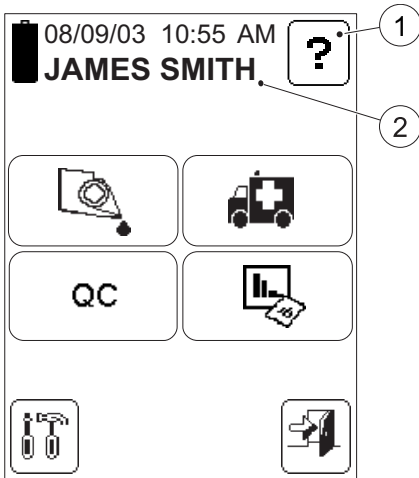

FIGURE 2-24
- c) If the requirement for Operator ID is set to "Not Used" (see section *3 Settings*), the Main Menu will be displayed, *FIGURE 2-24*, without the Operator Name. If Operator ID is required, the Login Image will be displayed, *FIGURE 2-23*.
- b) When a valid Operator ID is entered, the Main Menu will be displayed, see *FIGURE 2-24*.
FIGURE 2-24 is referred to as the *Main Menu*. It is displayed as the Startup Image for all Tests, Setting procedures, etc.